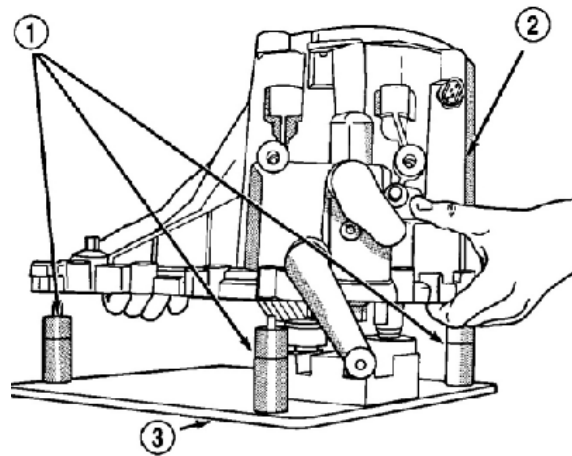

Figure 3-51 Plate jig
(17) Apply plate jig and gasket (Millertool #6785, 6785-1 and 6785-2) and turn the transaxle over. Mount the transaxle on the Plate jig (Figure 3-51) and confirm the gasket is put in place on the plate jig, and then place the transaxle in the compression machine.